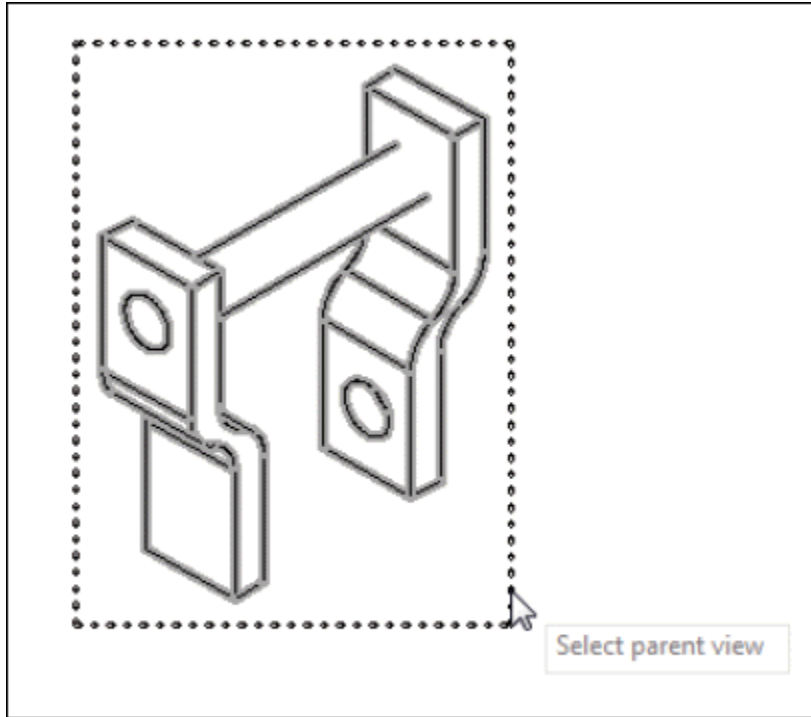

Figure-19. Selecting parent view for detail view
- Select desired view from drawing sheet; refer to Figure-19. The **DRAWING VIEW** dialog box will be displayed.